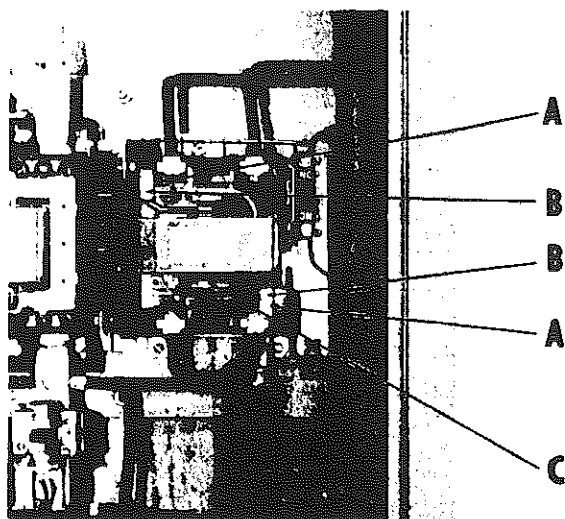

Fig. 3. Wye Contactor
1. Loosen coil retainer screws (B) Fig. 3. Press against coil and pull up and out on coil retainers (A) Fig. 3.
2. Pull one end of spring clip (C) forward and slide out of slot.